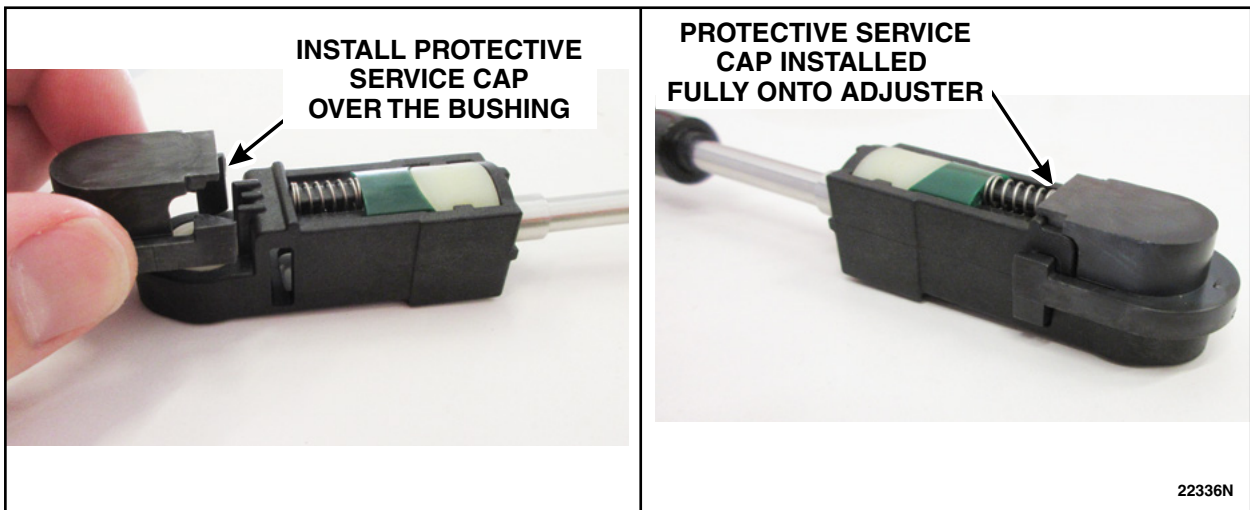

FIGURE 16
17. Install the *new* cap onto the selector lever cable adjuster. Clip one side into the adjuster body and then slide the other onto the housing until it snaps into place. The protective cap should cover the bushing and the terminal end of the adjuster. See Figure 16.